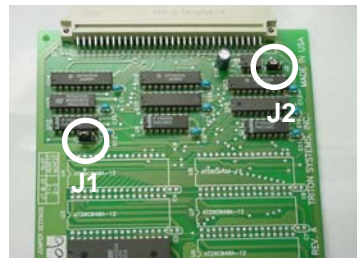

Figure 2-14. Memory Expansion module J1 and J2 jumper location (Pins 1 and 2).
8. The required **Memory Expansion** module will be installed in **slot 4** (SS-4) beneath the Modem/LCD module. Before installing, verify that the jumpers on **J1** and **J2** are connected on **Pins 1 and 2**. If not, move the jumpers to connect Pins 1 and 2 together (Figure 2-14). Install the Memory Expansion module.